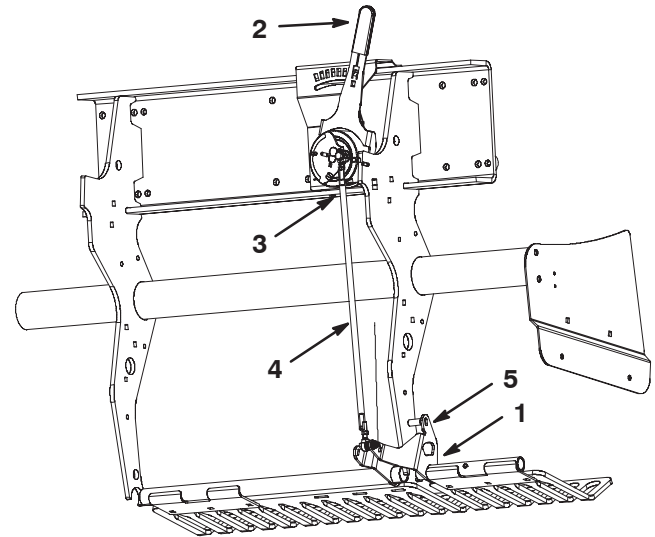

Figure 54
1. Rotate the LH turf guard mounting bracket (Fig. 54) up until a locking pin (5/16 drill rod or capscrew) can be inserted between the bracket and the depth setting tube welded to the frame.
2. Move the ground following lever (Fig. 54) to the “H” setting (deepest).
3. Disconnect the out-board ball switch (Fig. 54) from the wire harness (Head-Low switch).
4. Loosen the jam nuts (LH & RH) on the depth adjustment tie rod (Fig. 54) .